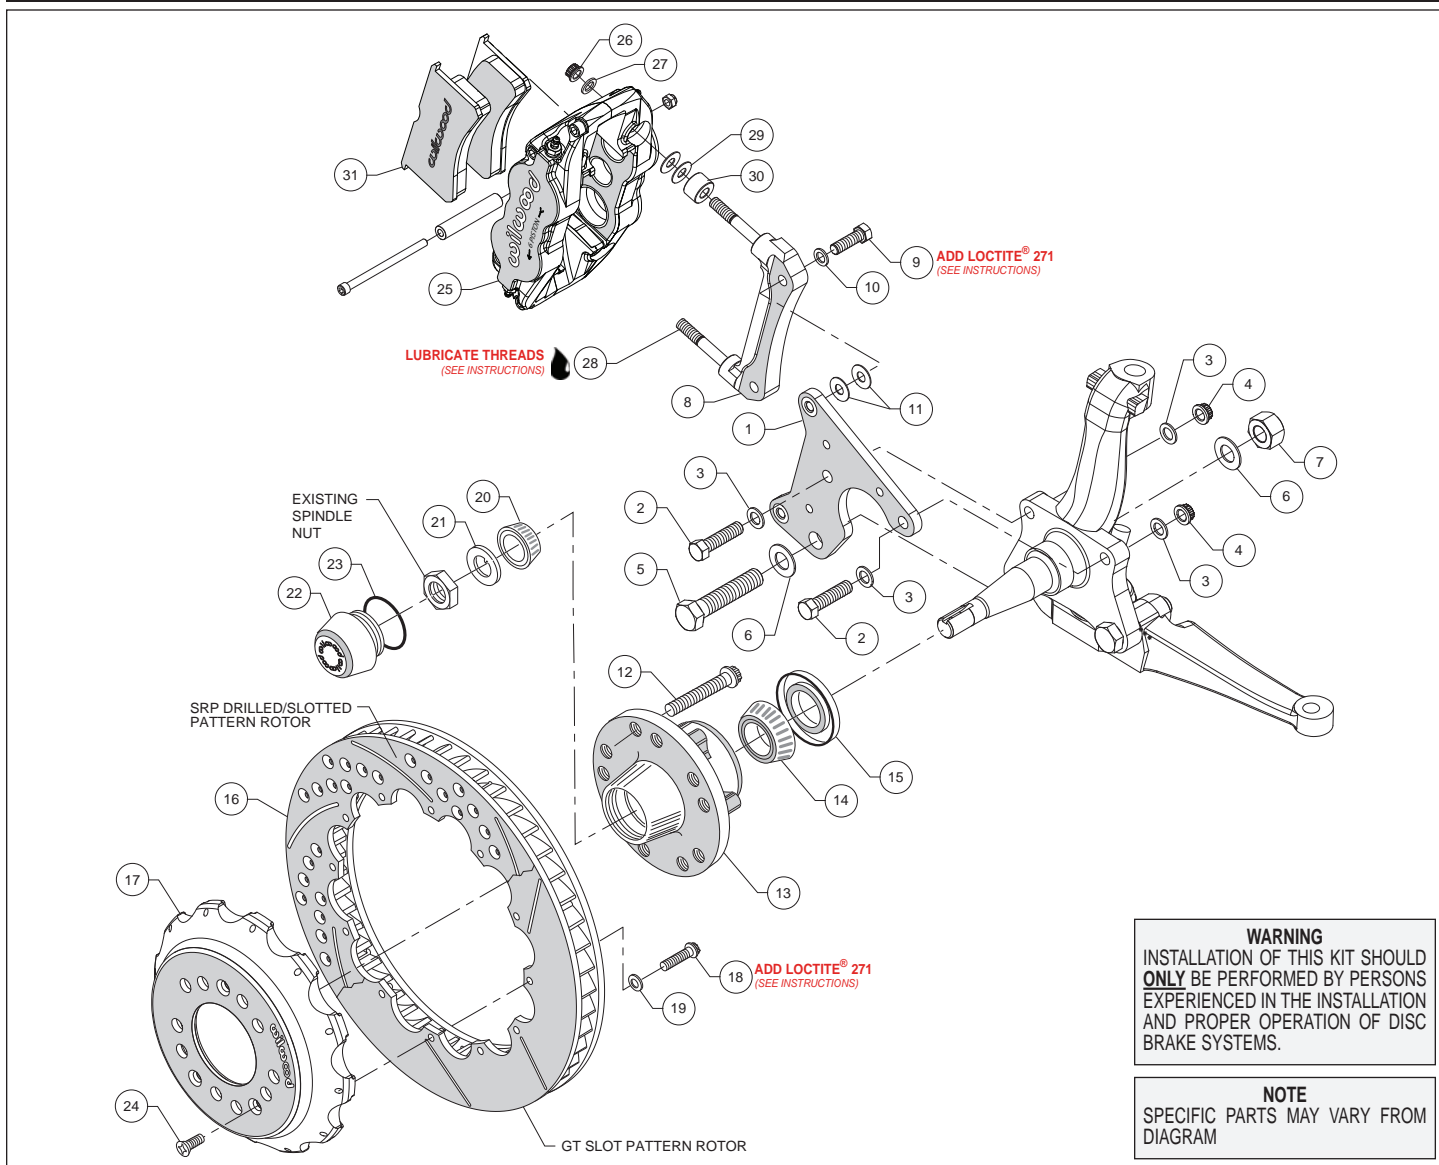
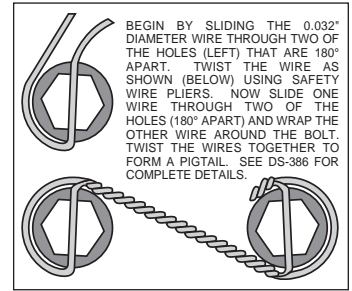

Figure 1. Typical Installation Configuration
Figure 3. Safety Wire Diagram
Assembly Instructions (numbers in parenthesis refer to the parts list and Figure 1 on the preceding pages): **CAUTION:** All mounting bolts must fully engage clinch nuts. Be sure to check that all bolts are protruding through flanged side of clinch nut after shimming.
- Orient the spindle bracket (1) as shown in Figure 1 and Photo 1, and install using bolts (2), washers (3), and nuts (4) on the top holes and bolt (5), washers (6), and nut (7) on the bottom hole, Figure 1 and Photo 1. Temporarily tighten the mounting bolts. Ensure that the flanged heads of the clinch nuts in the bracket are facing outboard, Photo 1. **NOTE:** The bracket must fit squarely against the mounting points on the spindle. Inspect for interference from casting irregularities, machining ridges, burrs, etc. Torque nuts (4) to 47 ft-lbs. and nut (7) to 140 ft-lbs.
- The caliper mount radial bracket (8) should initially be installed with clean, dry threads on the mounting bolts. Orient the bracket as shown in Figure 1, and Photo 2. Install onto the spindle bracket using bolts (9), and washers (10). Initially place two .035 thick shims (11) on each bolt between the radial and spindle brackets, Figure 1. Temporarily tighten the mounting bolts. Later, after the caliper alignment has been checked, the mount bolts will be secured using red *Loctite*[®] 271.
- Install wheel studs (12) into the hub (13), Photo 3. Torque to 77 ft-lb. **NOTE:** There are two five lug patterns in the hub (5 x 4.50 and 5 x 4.75). Ensure the correct hub stud pattern is being used to fit the wheel application.
- Pack the large inner bearing cone (14) with high temperature disc brake bearing grease (available from your local auto parts store) and install into the backside of the hub (13), Photo 4.
- Install the grease seal (15) by pressing into the backside of the hub (13), flush with the end of the hub, Photo 4.
- Orient the rotor (16) and the hat (17) as shown in Figure 1 and Photo 5. Attach rotor to hat using bolts (18) and washers (19). Using an alternating sequence, apply red *Loctite*[®] 271 to the threads, and torque to 155 **in-lbs**. For an added measure of security, the bolts may be safety wired using standard 0.032 inch diameter stainless steel safety wire as shown in Figure 3. Refer to Wilwood's data sheet DS-386 (available at www.wilwood.com/Pdf/DataSheets/ds386.pdf) for complete safety wire installation instructions.
- NOTE:** This kit contains distinct right and left hand calipers that must be mounted in a specific direction, as described below. Lubricate the caliper mounting studs (28) with lightweight oil. Initially place one spacer (30), and two .035" thick shims (29) on each stud between the caliper and the bracket, as shown in Figure 1 and Photo 8. Mount the caliper (25) onto the bracket (8) using lock nuts (26) and washers (27), Figure 1. Ensure that the caliper is mounted so the largest pistons are at the rotor exit end of the caliper, in relation to the direction of rotor rotation. Temporarily tighten the lock nuts and view the rotor through the top opening of the caliper. The rotor should be centered in the caliper, Photo 9. If not, adjust by adding or subtracting shims (11) between the spindle bracket (1) and the caliper mount bracket (8). Always use the same amount of shims on each of the two mounting bolts. Once the caliper alignment is correct, remove the radial bracket mounting bolts one at a time, apply red Loctite® 271 to the threads, and torque to 40 ft-lb. **NOTE:** The end of the bolts must be flush with, or protruding through, the head of the clinch nut.